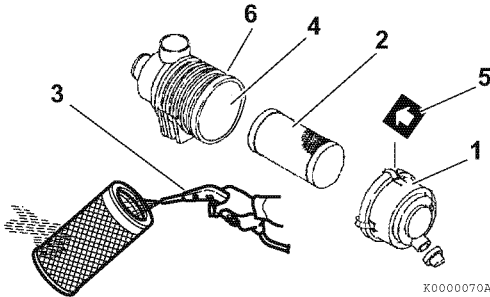
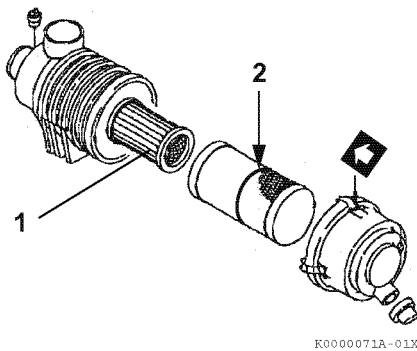

Figure 5-9
Figure 5-10
Note that a typical air cleaner is shown in **Figure 5-9** and **Figure 5-10** for illustrative purposes only.
1. Unlatch and remove the air cleaner cover (1, **Figure 5-9**).
2. Remove the element (2, **Figure 5-9**) (outer element if equipped with two elements).
3. Blow air (3, **Figure 5-9**) through the element from the inside out using 42 - 71 psi (0.29 - 0.49 MPa; 3.0 - 5.0 kgf/cm²) compressed air to remove the particulates. Use the lowest possible air pressure to remove the dust without damaging the element.
4. If the air cleaner is equipped with a double element, only remove and replace the inner element (1, **Figure 5-10**) if the engine lacks power or the dust indicator actuates (if equipped).
8. Install the element into the air cleaner case (4, **Figure 5-9**).
*Note: If there is a red line (2, **Figure 5-10**) in the outer element, reinsert the element until the overlap position of red line and end face of the air cleaner case.*
9. Reinstall the air cleaner cover making sure you match the arrow (5, **Figure 5-9**) on the cover with the arrow on the case (6, **Figure 5-9**).
Replace the air cleaner element (2, **Figure 5-9**) every 500 hours even if it is not damaged or dirty.
When replacing the element, clean the inside of the air cleaner case (4, **Figure 5-9**).
If the air cleaner is equipped with a double element, *only remove and replace the inner element (1, **Figure 5-10**) if the engine lacks power or the dust indicator actuates (if equipped)*. This is in addition to replacing the outer element.